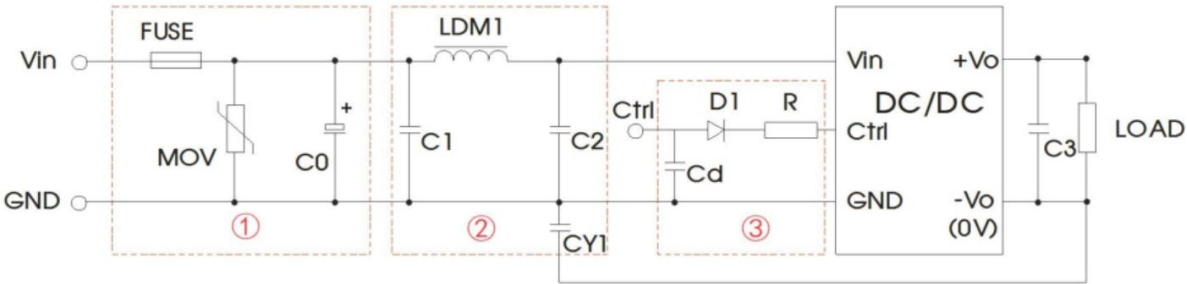

Fig. 3
RE	CISPR32/EN55032 CLASS B (see Fig. 3-② for recommended circuit)
EFT	IEC/EN61000-4-4 ±2kV (see Fig. 3-① for recommended circuit) perf. Criteria B
Surge	IEC/EN61000-4-5 line to line ±2kV (see Fig. 3-① for recommended circuit) perf. Criteria B
- ① or EMC tests we use Part ① in Fig. 3 for immunity and part ② for emissions test. Selecting based on needs.
- ② VC is the voltage of the Ctrl end relative to the GND of the input grounding; VD is the positive-going conduction pressure drop of D1; IC is the current flows into the Ctrl end and its value is generally 5-10mA, see Fig. 3-③ for the peripheral circuit of Ctrl end;
- ③ If there is no recommended parameters, no external component is required.n: